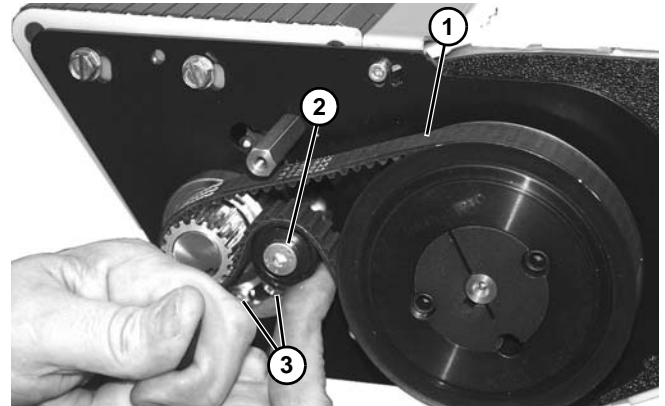

Figure 179
- On idler end, route and install belt (**Figure 179, item 1**) as shown. Press up on tensioner (**Figure 179, item 2**) and tighten two socket head screws (**Figure 179, item 3**).